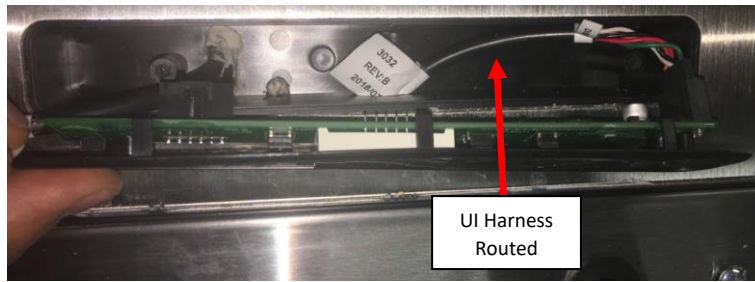

Figure 107: UI Harness routing shown.
- ii. Pull the UI Harness into the UI Board Housing so that there is sufficient length in the housing. See **Figure 107**.